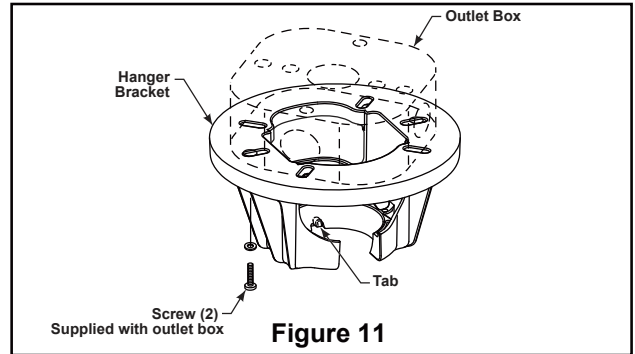

Figure 11
- 1. Securely attach the hanger bracket to the outlet box using the outlet box screws and washers supplied with the outlet box. (Figure 11)